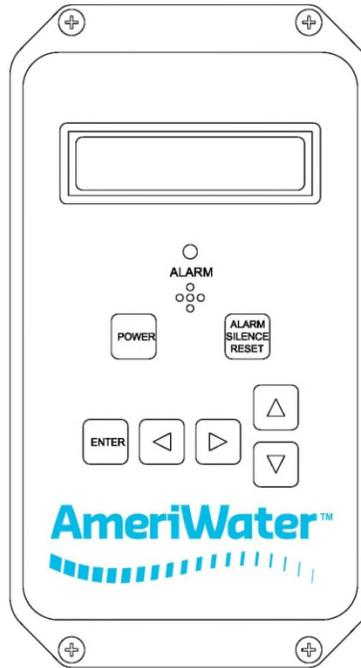

FIGURE 6.1
1. Refer to *Figure 6.1* for the location of the keys used to display or change the Setpoints.